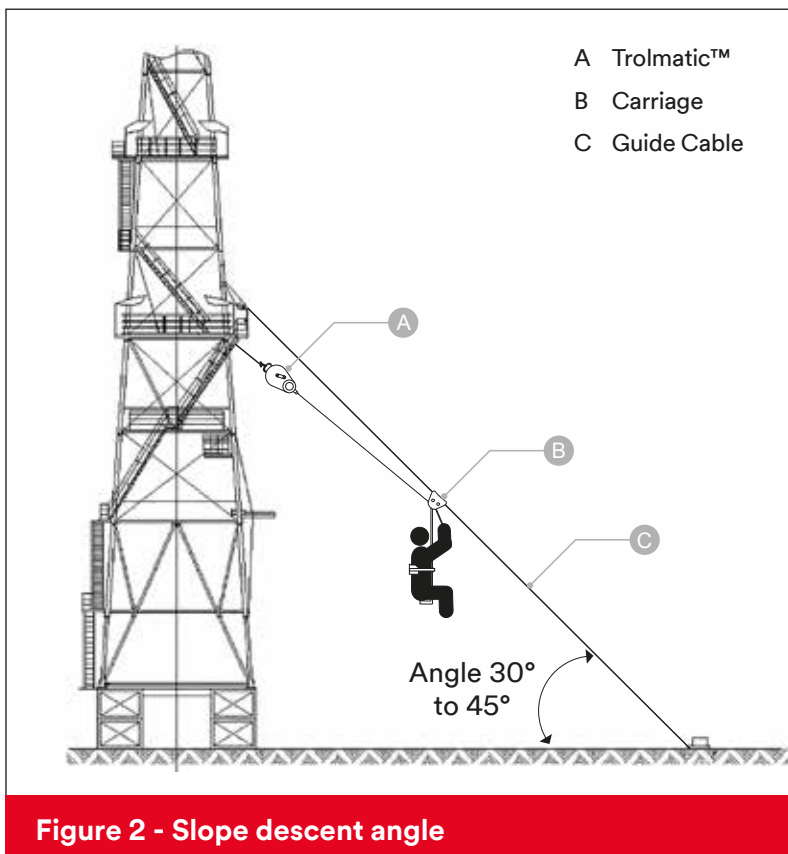

Figure 2 - Slope descent angle
- C. Slope Angle of Guide Cable:** The guide cable should have an angle of 30° to 45° from the ground (see Figure 2).